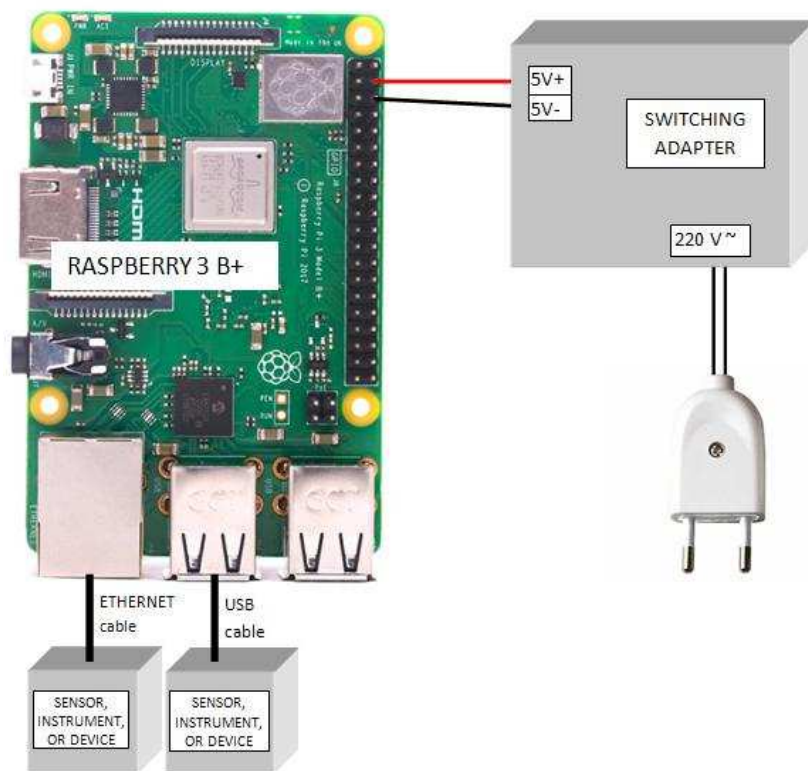
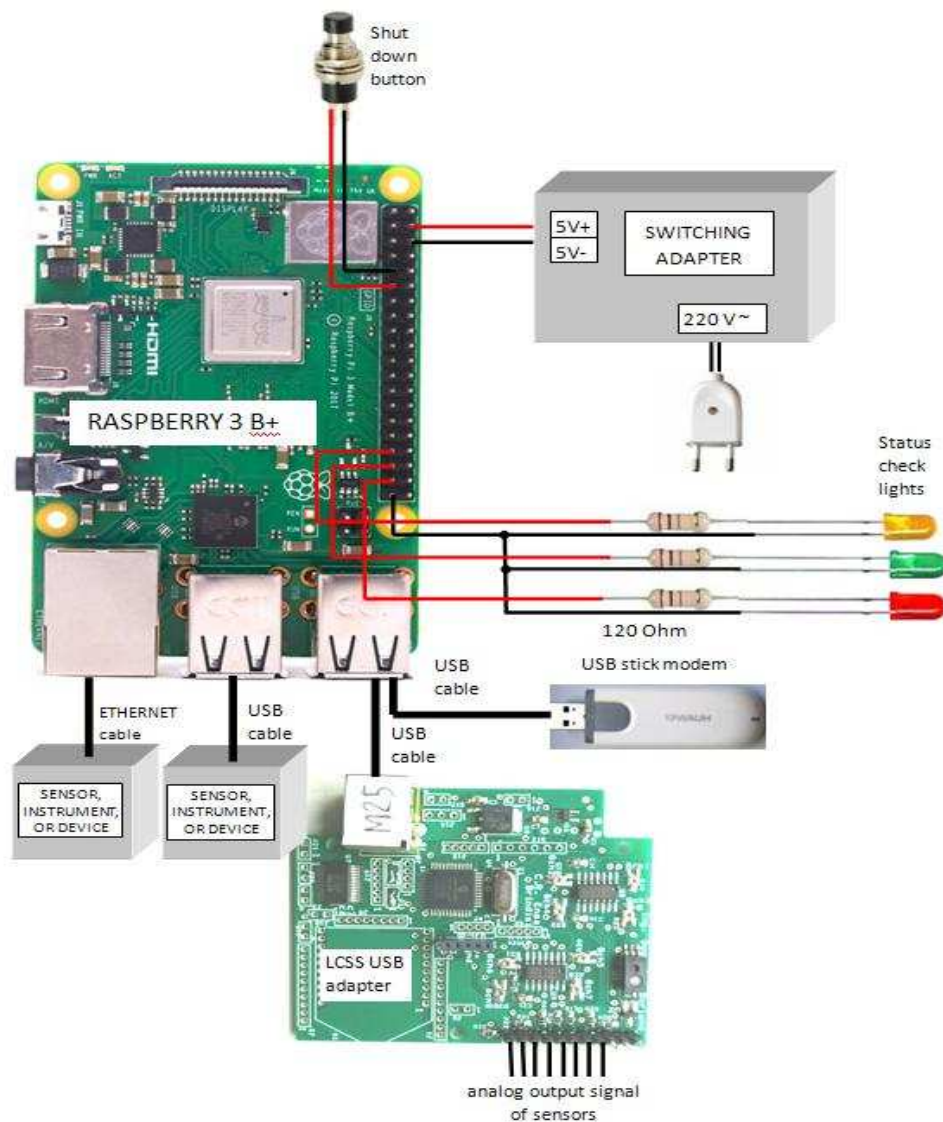

Figure 2: *SentinAir* hardware minimal configuration.
Figure 3: *SentinAir* hardware typical configuration.
SentinAir is a modular and flexible system. The system hardware can be assembled in a minimal (see figure 2), or a typical configuration (see figure 3). The minimal hardware is composed of:
- a 5V power source capable of providing a direct current of 3A maximum. At the moment, the system has been tested with a switching ac/dc adapter (see figure 2).
The typical hardware configuration of a *SentinAir* system is shown in figure 3, and it is composed of: